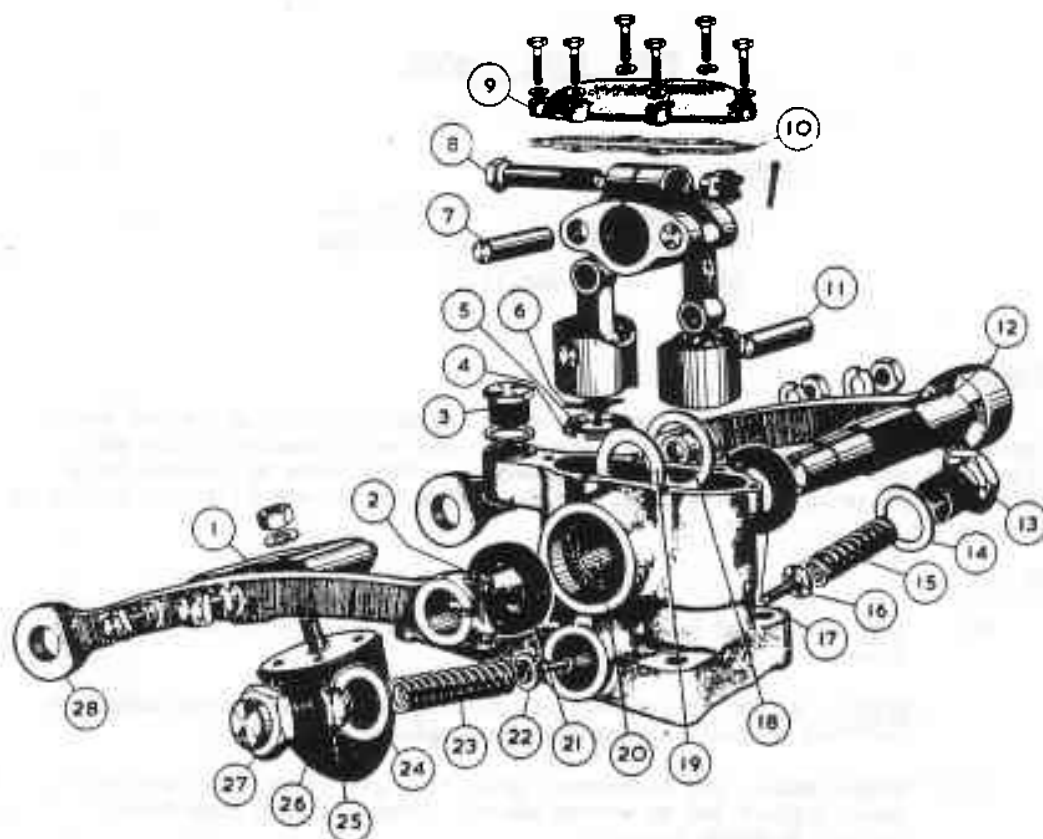

FIG.H.22. FRONT SHOCK DAMPER.
- (i) Remove top cover. Unscrew valve caps (13 and 27, Fig.H.22), about half way and drain oil. Remove rebound valve assembly, situated under detachable lever. Remove bump valve assembly from other side. Keep parts separate.
- (ii) Remove distance piece carrying rubber rebound stop (1). Slacken pinch bolt and remove lever (2).
- (iii) Slacken off pinch bolt on rocker (8). Mark rocker and casing to ensure that pistons are refitted in original bores.